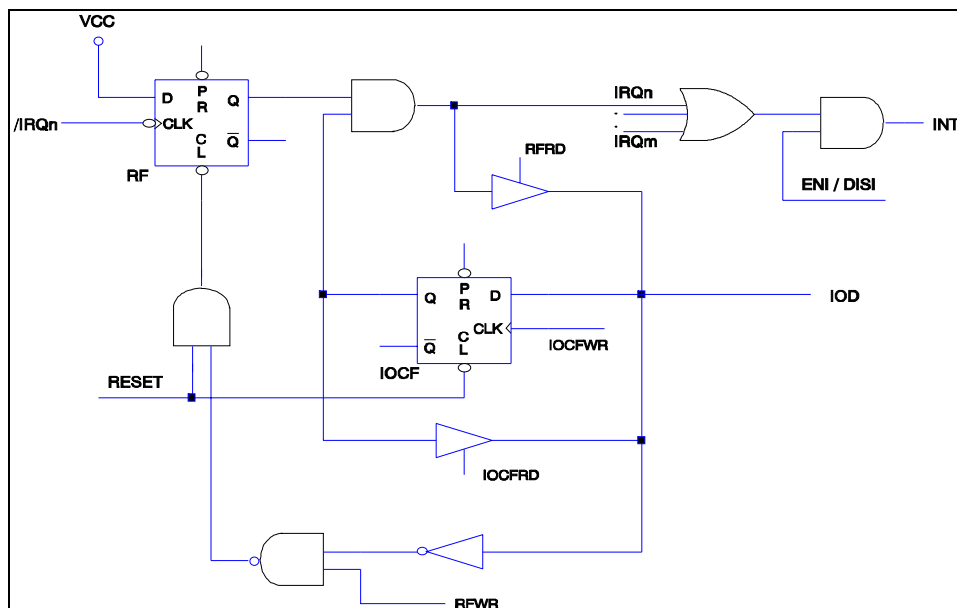

Figure 5-10 Interrupt Input Circuit
The flag (except ICIF bit) in the Interrupt Status Register (RF) is set regardless of the status of its mask bit or the execution of ENI. Note that the outcome of RF will be the logic AND of RF and IOCF0 (refer to Figure 5-10). The RETI instruction ends the interrupt routine and enables the global interrupt (the execution of ENI).